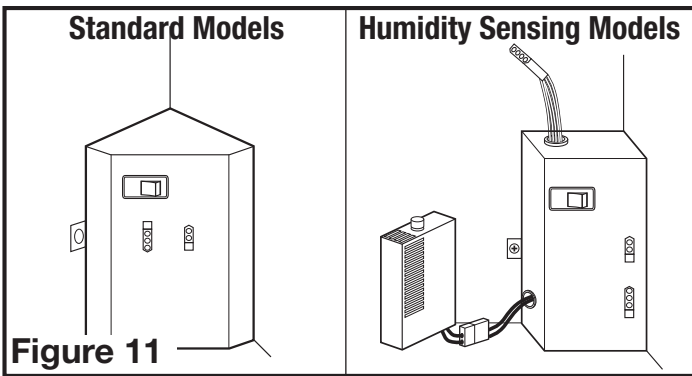

Figure 11
- 3a. STANDARD AND HUMIDITY SENSING MODELS:** Plug the fan's 2 pin and 3 pin quick connect motor cords into the corresponding receptacle located on the wire compartment cover. These cords will only fit one way into the receptacles (**Figure 11**).